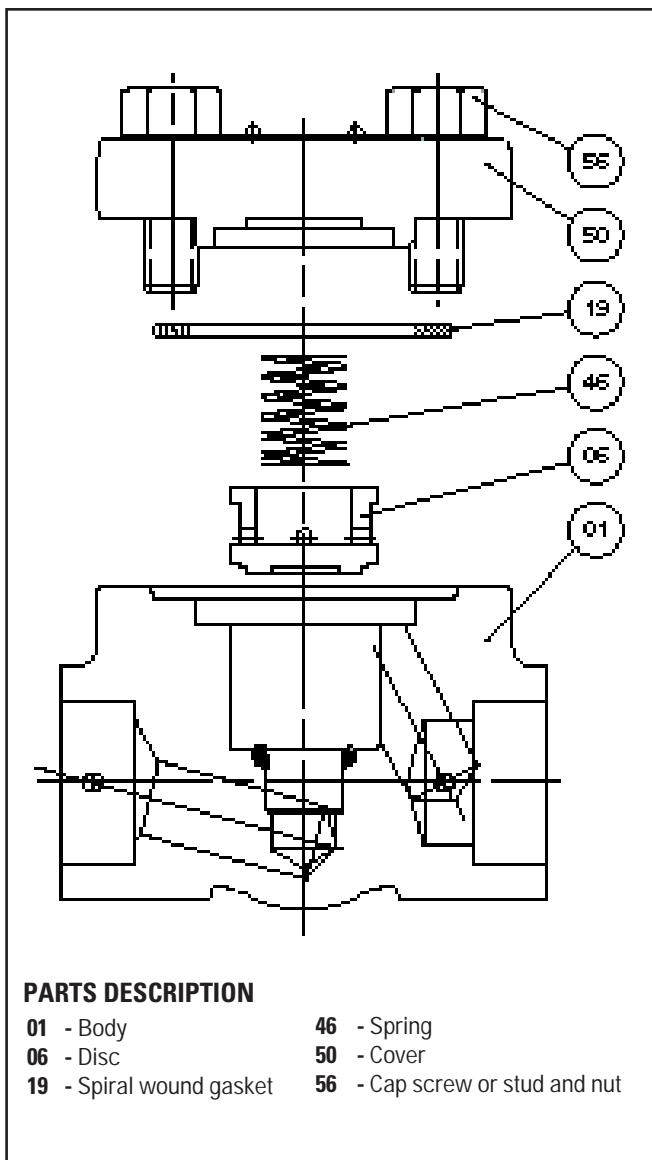

Figure 8.2A Bolted cover piston check valve exploded view
The disassembly instructions below cover all of Velan's small bolted cover piston (ball) check valves. As the general disassembly progresses, place matching marks on parts so that the same parts will be used at reassembly (*refer to Figures 8.2A and 8.2B*).
- Once all the cap screws (nuts) are removed, the entire cover can be lifted off the valve body as shown in *Figures 8.2A and 8.2B*.
- Remove used spiral wound gasket (19).
- Lift spring (46) and piston disc or ball (06).
6. During inspection, check the condition of the body-cover cap screws (studs) (56). Studs may have been damaged when removing seized nuts or when lifting the cover. If studs are damaged, remove and replace them as follows: